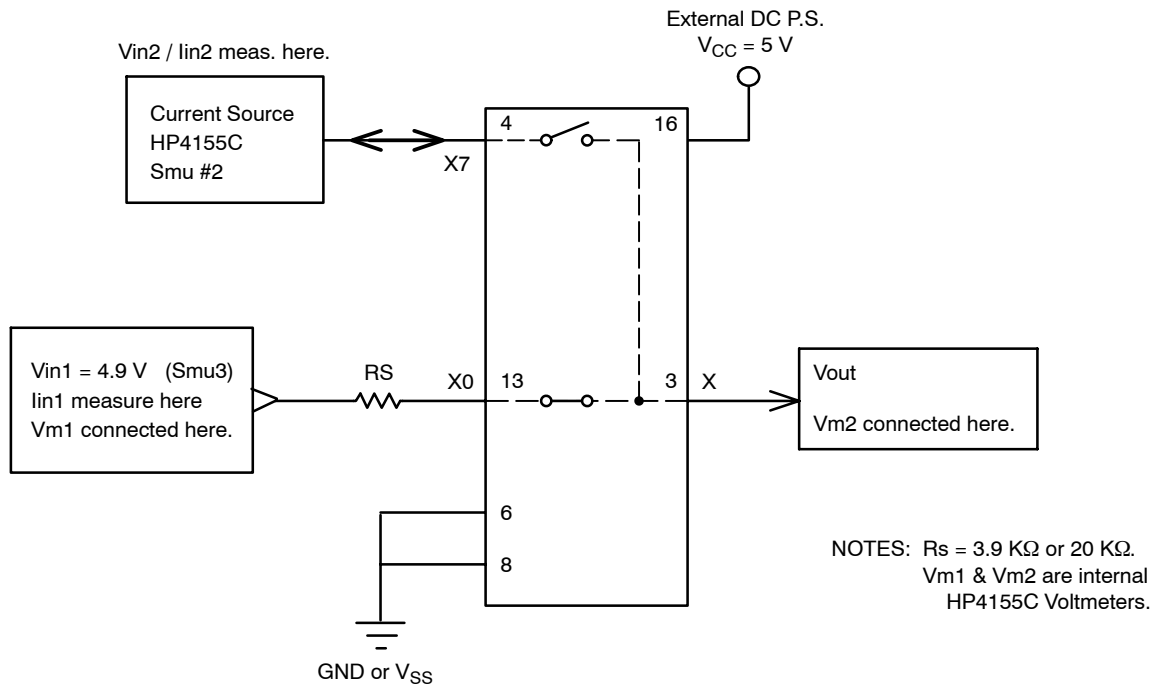

Figure 6. Injection Current Coupling Specification
- Injection Current Cross-Coupling Less than 1mV/mA (See Figure 6)